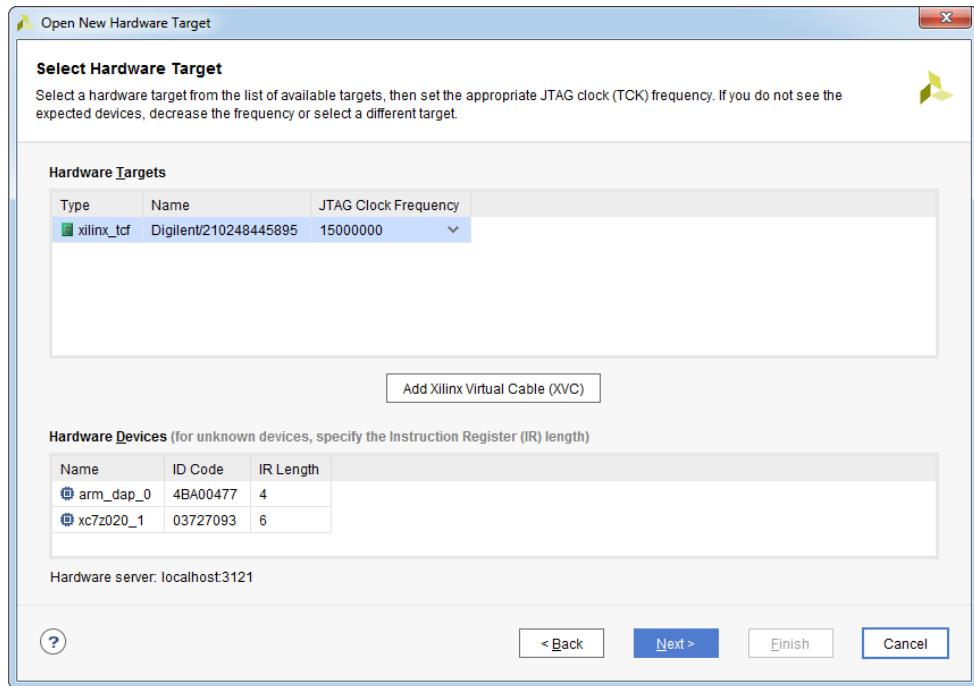

Figure 10.38: Select Hardware Target dialog box
9. In the **Select Hardware Target** dialog box, select the appropriate hardware target from the list of targets that are managed by the hardware server. Note that when you select a target, you will see the various hardware devices that are available on the hardware target, see Figure 10.38.